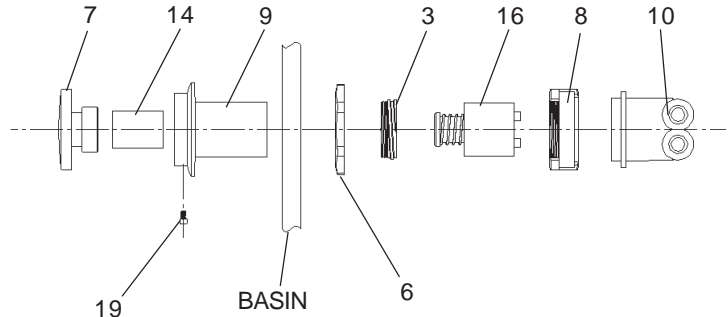

FIG. 4
7. Check stream height from bubbler. Stream height is factory set at 35-40 PSI. If supply pressure varies greatly from this, adjust the screw on regulator item 16 by using a small screwdriver through the small hole in the push button item 7 (See Fig.4). Clockwise adjustment will raise stream height and counter-clockwise adjustment will lower stream height. For best adjustment stream height should be approximately 1-1/2" (38mm) above the bubbler guard (See Figure 5, Page 4).